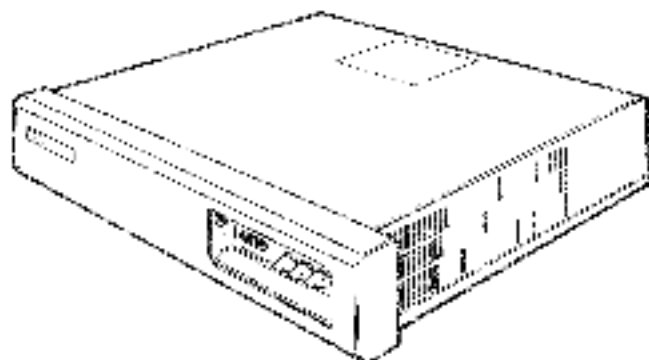

Figure 1-1 BA11-S Enclosure (PDP-11/23 PLUS system only)
- The enclosure. A PDP-11/23 PLUS is mounted in a RA11-S enclosure. The MicroPDP-11/23, MicroPDP-11/73, and MicroPDP 11/83 systems are mounted in RA23-A or RA123-A enclosure (Figures 1-1 through 1-3).